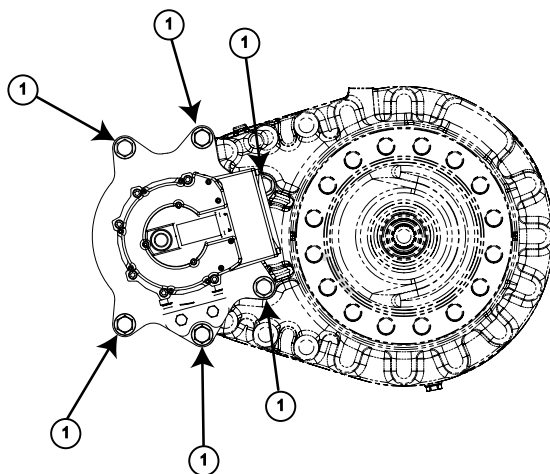

Fig. 19: E-Machine mounting
5. Loosen and remove all hexagon flange bolts „Fig. 19: E-Machine mounting“ on page 44.